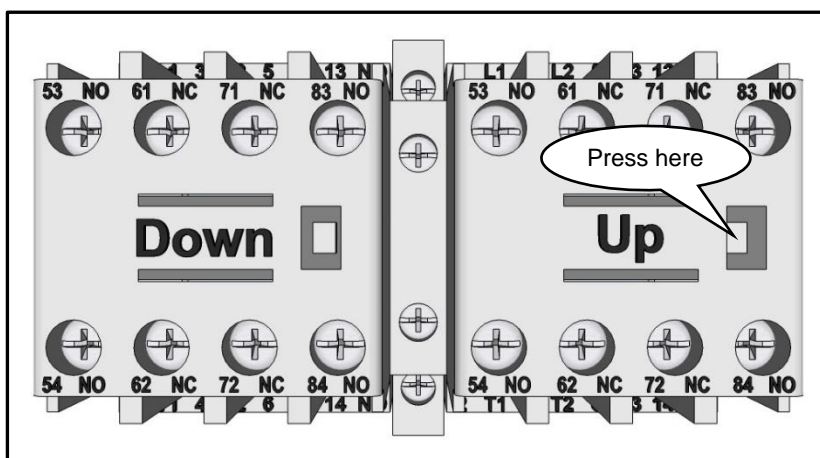

Figure 15
- 2** To check the motor rotation, open the control box and locate the Down “D” and Up “U” contactor. (see Figure 15)